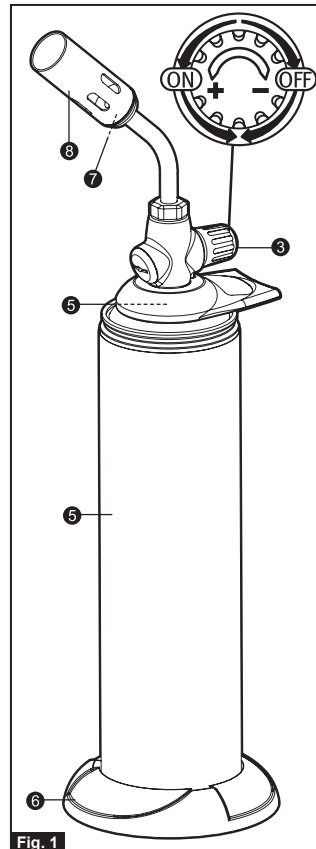

Fig. 1
- 3.6 To fit the stabilising base (6) to the gas container, push the bottom of the gas container firmly and squarely into the stabilising base until it stops (Fig.1). The stabilising base must always be fitted to the gas container before the appliance is used.
- 4.2 Adjust the size of the flame by turning the control knob (3). To increase the size of the flame, turn the control knob in the direction of the "+" arrow (anticlockwise). To decrease the size of the flame or to turn the appliance off, turn the control knob in the direction of the "-" arrow (clockwise) (Fig.1).